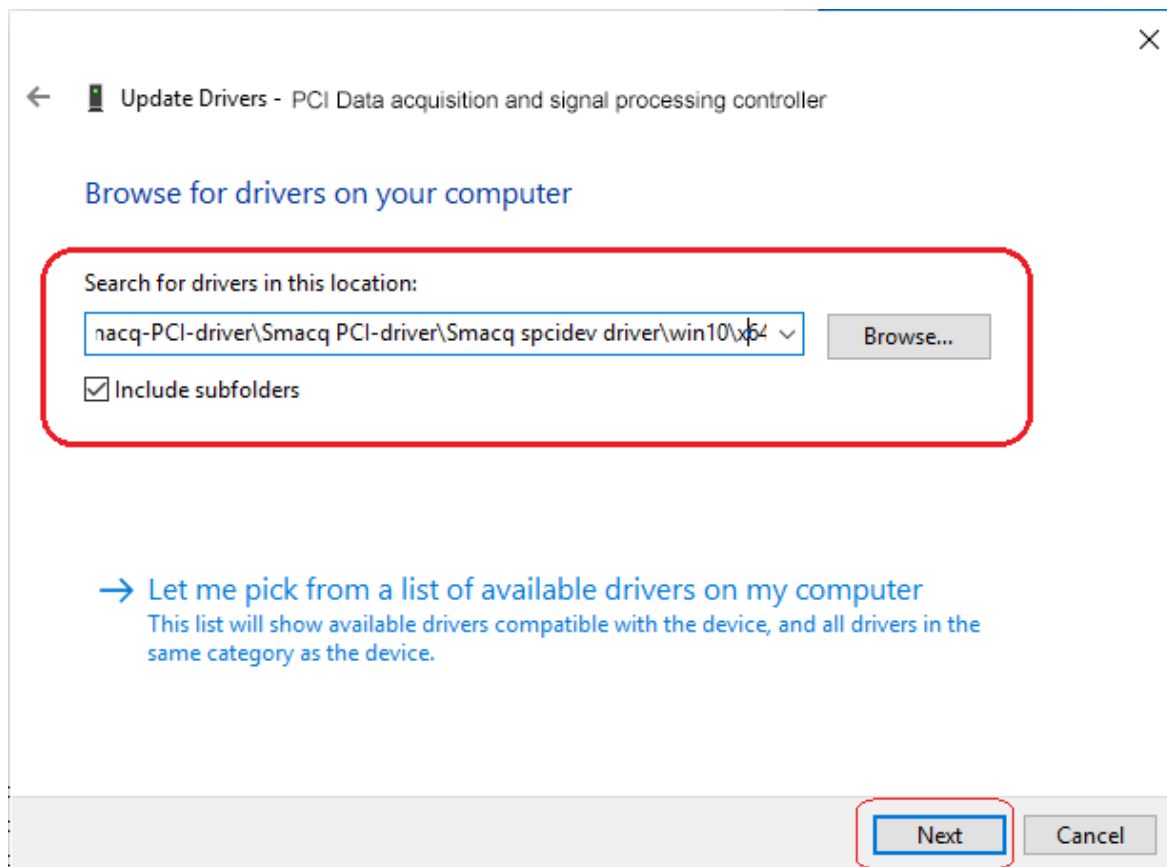

Figure 2.6 Locate the folder where the driver is located.
- 3) Then in the pop-up dialog box, click "Browse" button, locate the operating system version folder corresponding to the driver, and then click "Next", as shown in Figure 2.6.